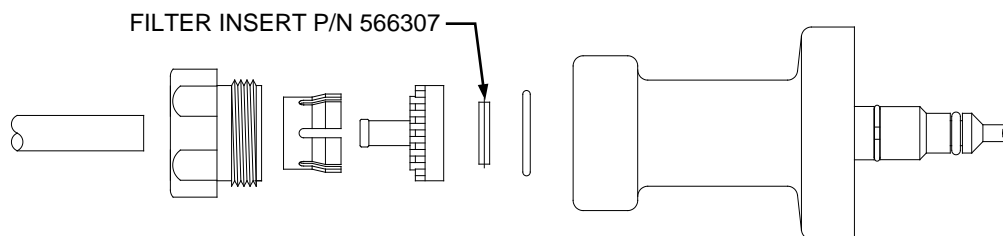

Figure 3. Concentrate (acid) and Bicarbonate Connector Assemblies.
2. Filters in the concentrate (acid) and bicarbonate connectors (See Figure 3).